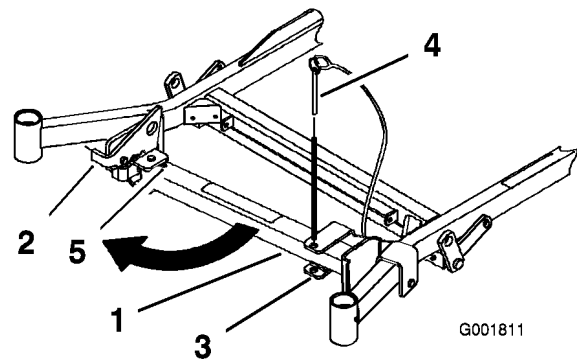
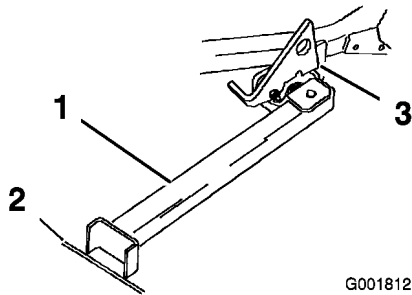

Figure 32
Figure 33
2. Remove the bracket pin (Figure 32).
3. Raise the latch. Swing the stand foot out front and slide stand toward machine, into the bottom of slot (Figure 32 and Figure 33).
4. Set the foot of stand on the ground and rest the latch on the pivot tab (Figure 33).
Note: For best results, place the foot of stand into seams in sidewalks or into the turf (Figure 33).
6. Drive onto the stand. Stop when the latch drops over the tab into the locked position (Figure 33). Once onto the stand, engage the parking brake and turn off the engine.
5. Return the stand to its rest position (Figure 32).